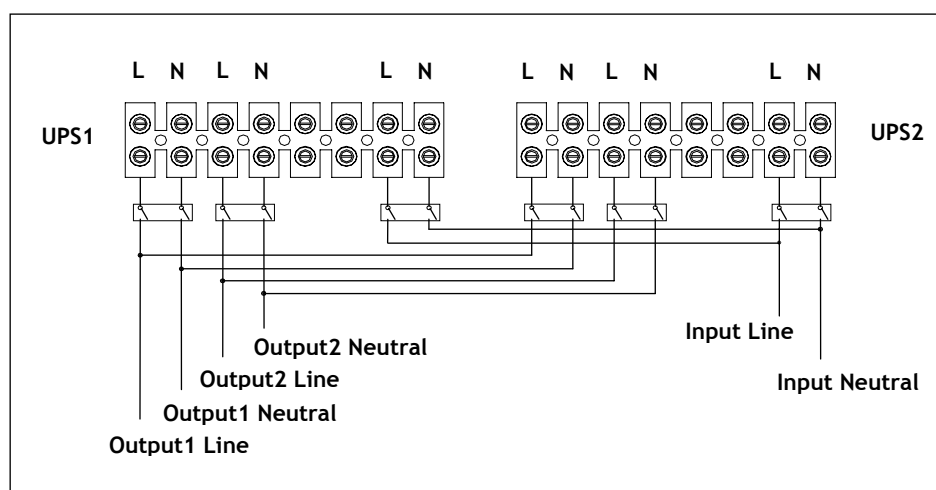

Figure 7 - Connections for Parallel System
1. Make sure all of the UPS's are parallel models, and connect Input/Output terminals as explained in figure 7, using external Input/Output circuit breakers.